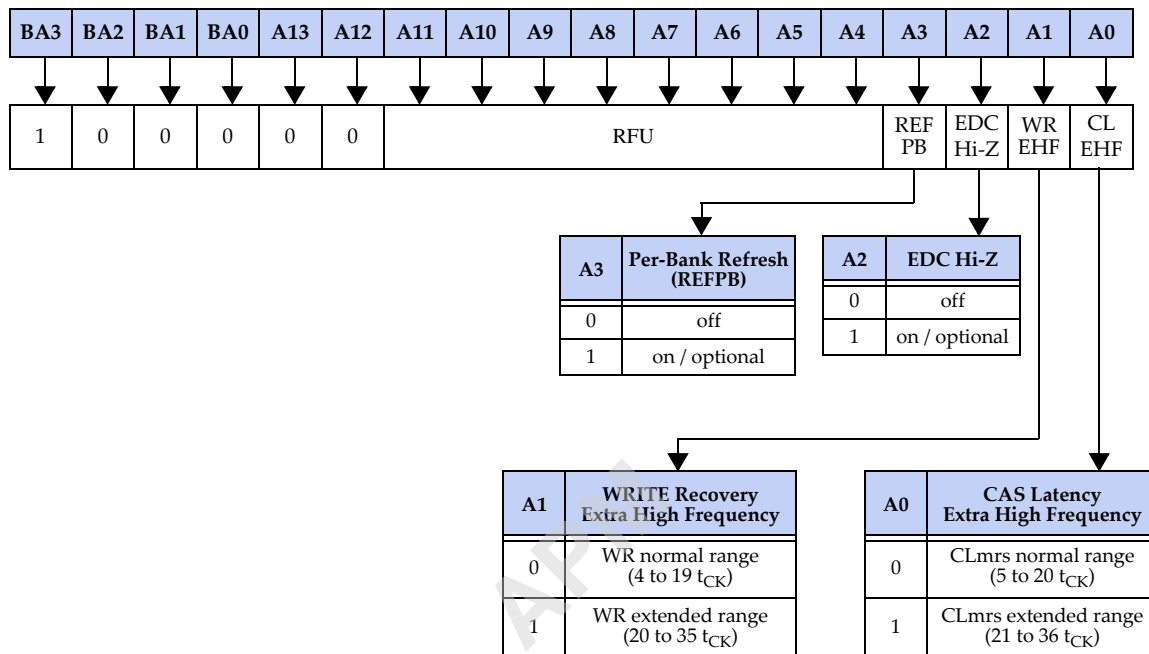

Figure 35 — Mode Register 8 (MR8) Definition
Mode Register 8 defines Per-Bank Refresh (REFPB), EDC Hi-Z and extensions to CAS latency (CLmrs) and Write Recovery (WR) as shown in Figure 35.